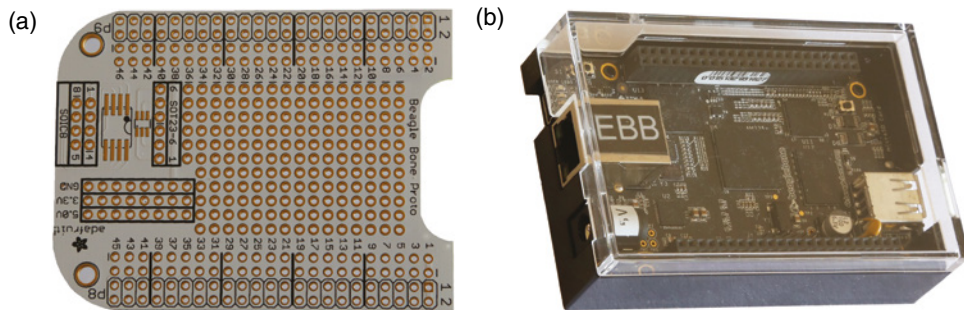

Figure 1-12: (a) The Proto cape; (b) a suitable enclosure case
- The Adafruit Proto cape, as illustrated in Figure 1-12(a), is a low-cost (~\$10) bare cape, which you can use to transfer your breadboard design to a more solid platform. Several other breadboard and prototyping capes are available for the BeagleBone and PocketBeagle boards. One particularly notable cape is the BaconBits cape (tiny.cc/beagle110), which adds seven-segment displays, an accelerometer, LEDs, POTs, buttons, and a USB-to-serial bridge to the PocketBeagle.
- Do not place a powered board on metal surfaces (e.g., aluminum-finish computers) or on worktops with stray/cut-off wire segments, resistors, etc. If you short the pins (or the solder points) on the expansion headers, you can easily destroy your board. You can buy a case from suppliers such as Adafruit (see Figure 1-12(b)). Alternatively, you can attach small rubber feet to the board.